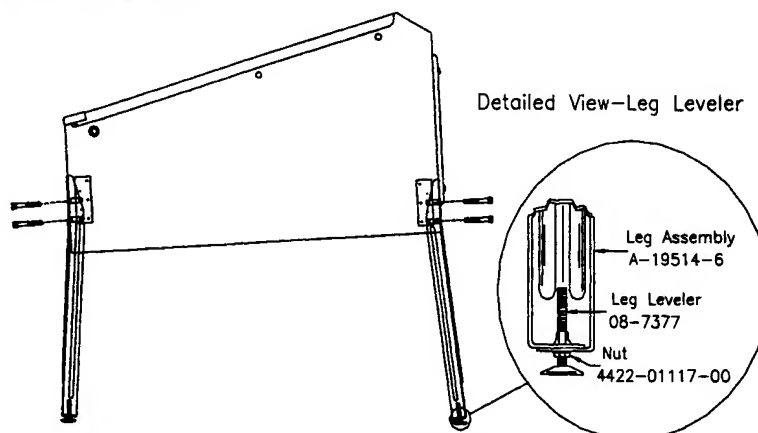

Figure 1
2. The leg levelers, nut, and leg bolts are among the parts in the cash box. Install a leg leveler and nut on each of the front and rear legs. Place the cabinet on a support. Using two leg bolts in each leg attach the rear legs to the cabinet. Next, using two leg bolts in each leg, attach the front legs to the cabinet. See Figure 1.